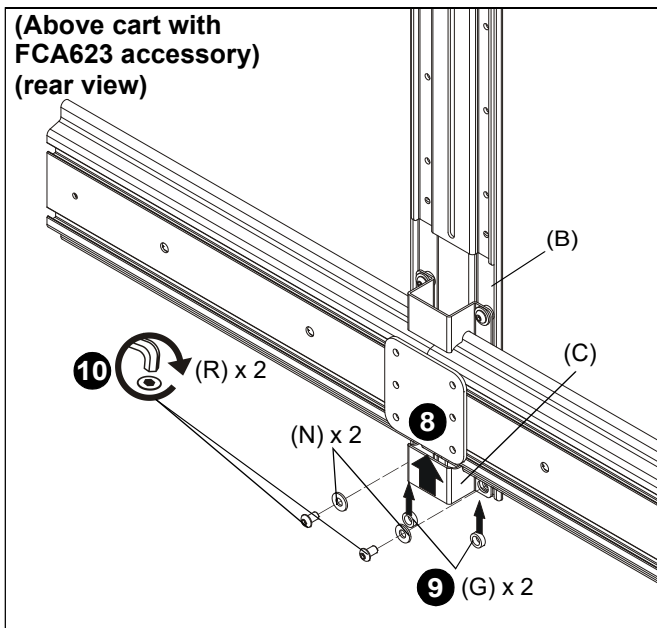

Figure 20
- Slide second shelf bracket (C) underneath head assembly, lining up holes on shelf bracket (C) to holes on main bracket (B). (See Figure 20)
- Slide two 1/2" spacers (G) in between shelf bracket (C) and main bracket (B). (See Figure 20)
- Use two 1/4-20 x 1/2" button head cap screws (R) and two large washers (N) to secure shelf bracket (C) to main bracket (B). (See Figure 20)